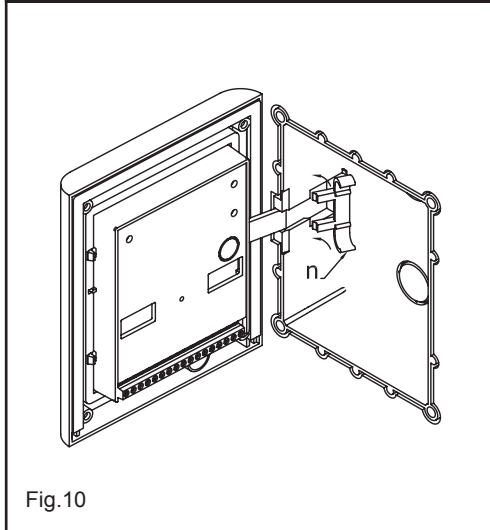

Fig.10
2. Continue from step 3 of surface mounting, but at step 6 hook the hinge lock n as shown on figure 10.